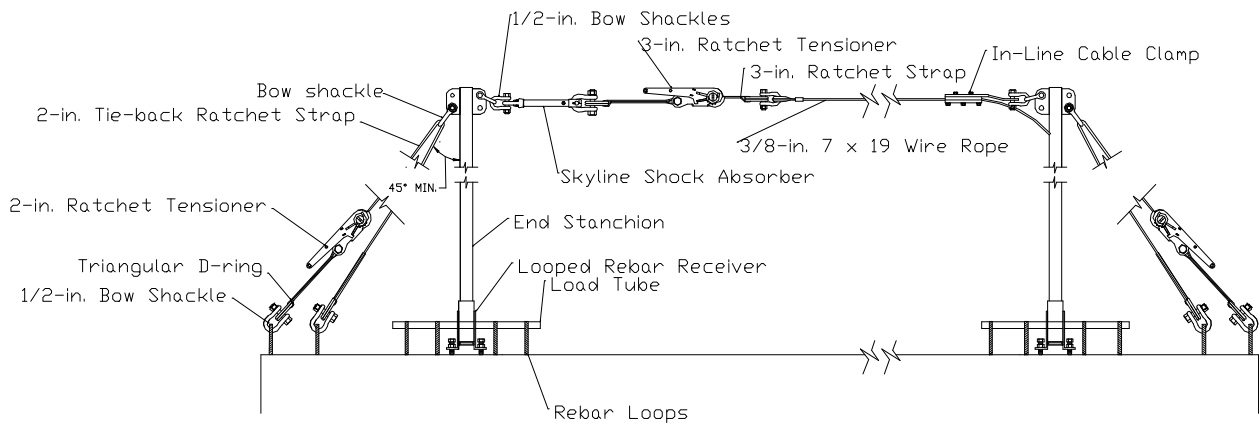

Figure 1b
1. Remove the Receiver Load Tube bolt and Load Tube from the Looped Rebar Receiver (see Figure 1a or Figure 1b for parts identification). Place Receiver between rebar loops. Note: Rebar loops must be Grade 40 or Grade 60 rebar, Size 4 (1/2-in.) or larger.
12. Pass the 2-in. Ratchet Strap up through the 5/8-in. bow shackle that is attached to the end stanchion and then thread it into the mandrel of the Ratchet Tensioner and ratchet until tight (see Figure 1b). Verify that the webbing makes **AT LEAST** one full revolution on the mandrel. If it does not, release the load, pull a couple of inches of strap out, and then retighten to achieve the minimum one full wrap of webbing on the mandrel.
14. Repeat Steps 1 through 8 to install Looped Rebar Receivers with Bypass Stanchions at the correct location as required for your particular horizontal lifeline design. If there are **ANY** questions regarding the design or suitability of a horizontal lifeline in a particular situation, call Reliance Engineering at (303) 424-8650, **BEFORE** proceeding with the setup or use of any lifeline.